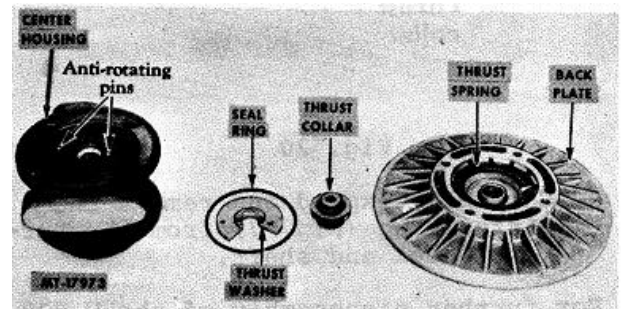
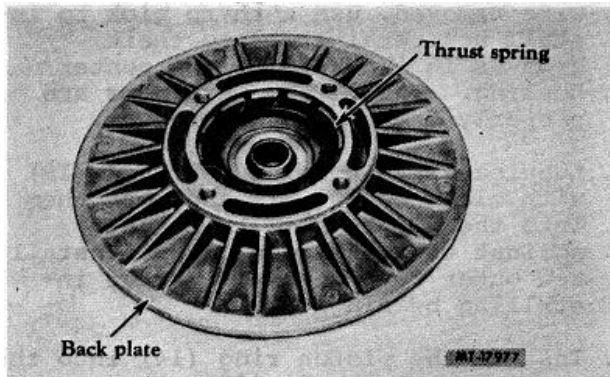

Fig. 18
Fig. 22 Thrust Spring in Back Plate
- a. Remove the seal ring, thrust collar and thrust washer from the center housing (Fig. 18). The thrust spring located in the back plate is replaceable, but should not be removed unless replacement is necessary.
6. Install the thrust collar and washer over the shaft (25), thrust washer first and engage the holes in the washer with the anti-rotating pins (Fig. 18) in the center housing.
7. Install a new seal ring (13) into the groove in the compressor side of the center housing.
8. Insure the thrust spring is correctly seated in the back plate (Fig. 22).